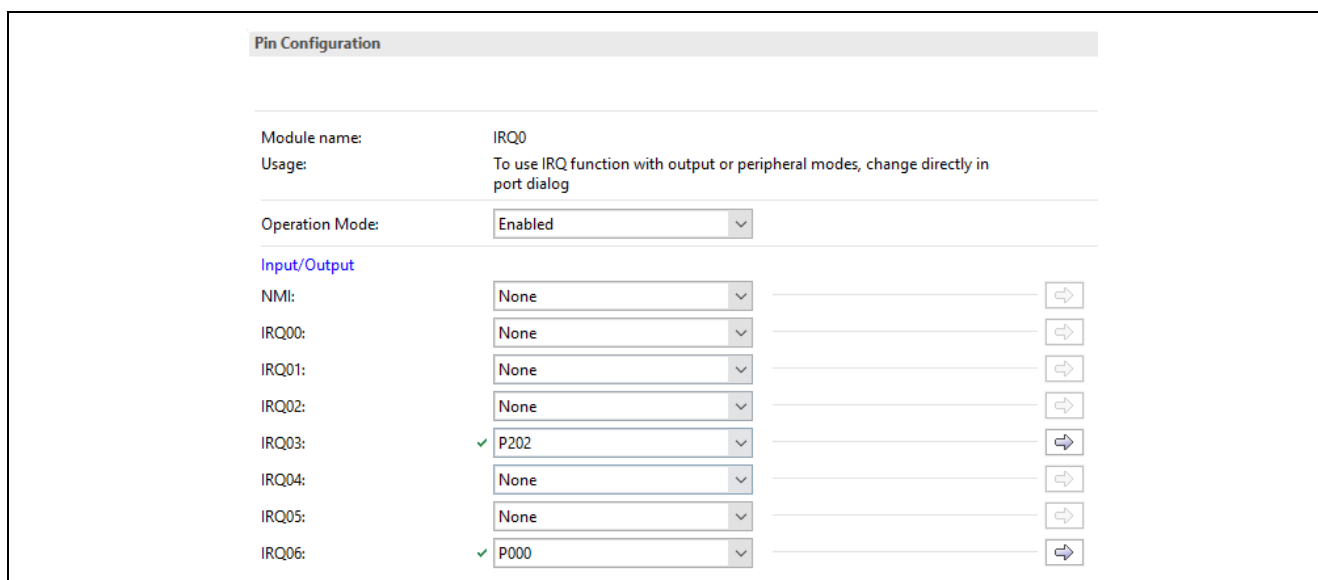
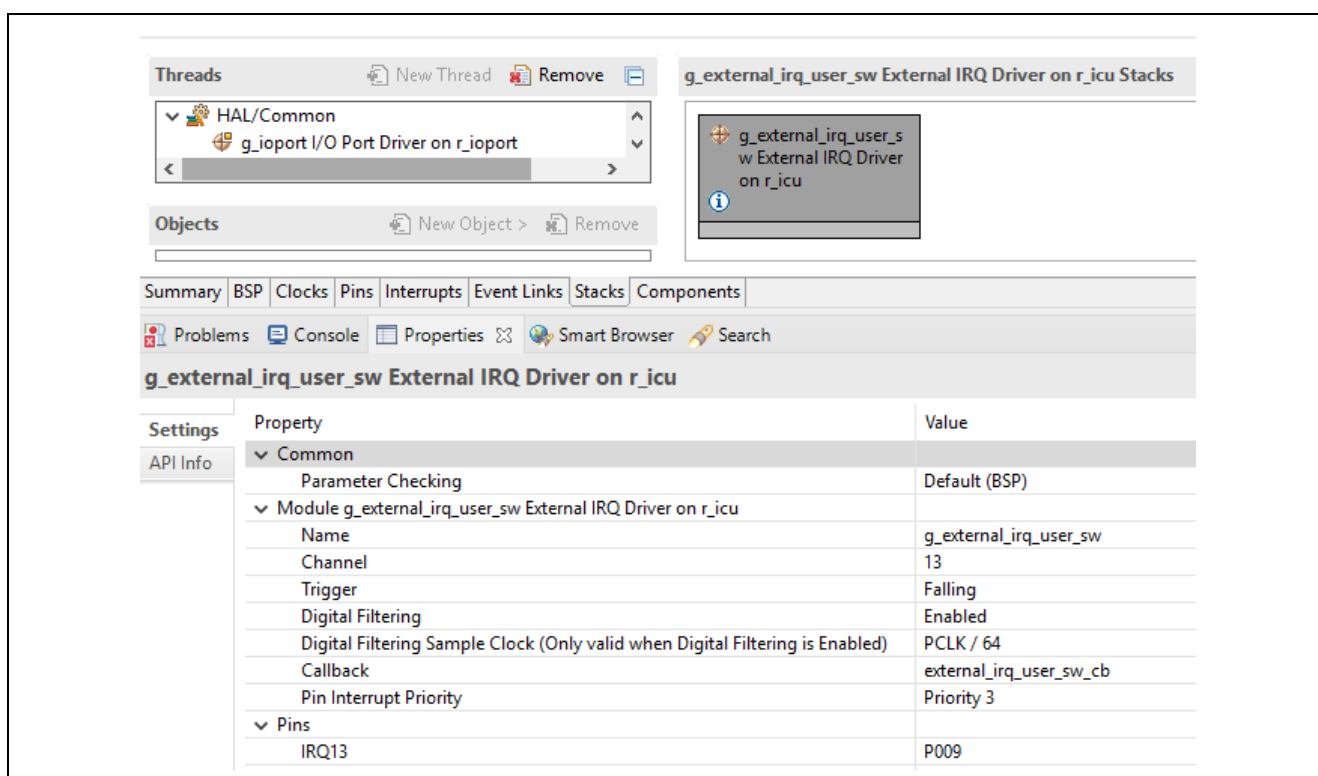

Figure 33. Enable P202, P000 as IRQ03, IRQ06 inputs Respectively using Pin Configurator in Renesas FSP
Figure 34. Configure IRQ13 using Renesas FSP Configurator
- Figure 33 and Figure 34 show examples of enabling and configuring IRQ pins using Renesas FSP.